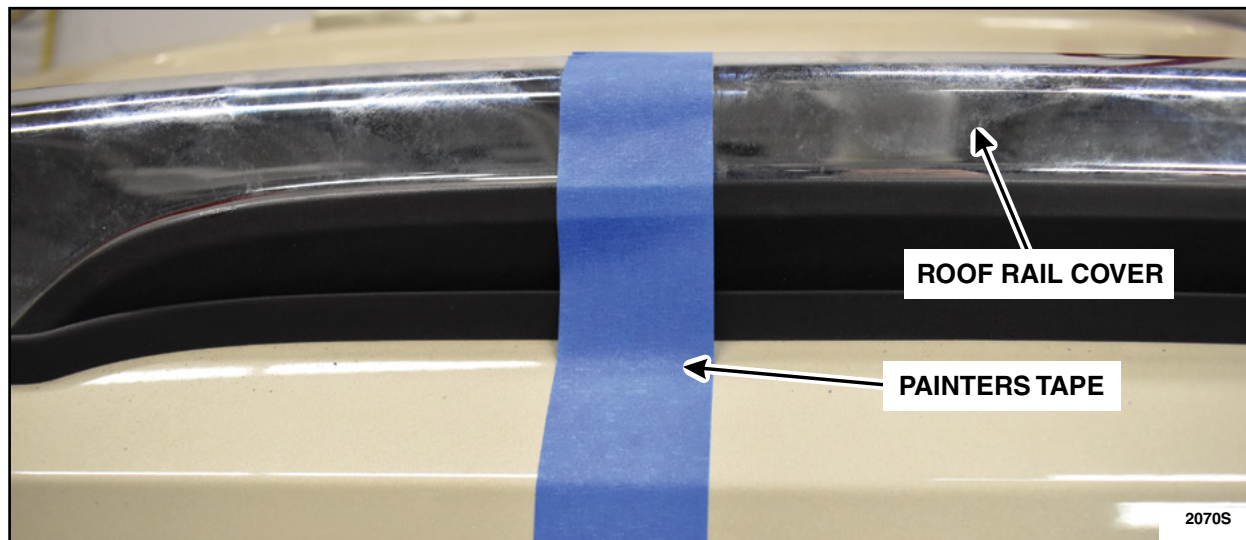

FIGURE 21
7. Apply the painters tape to the roof rail cover. See Figure 21.